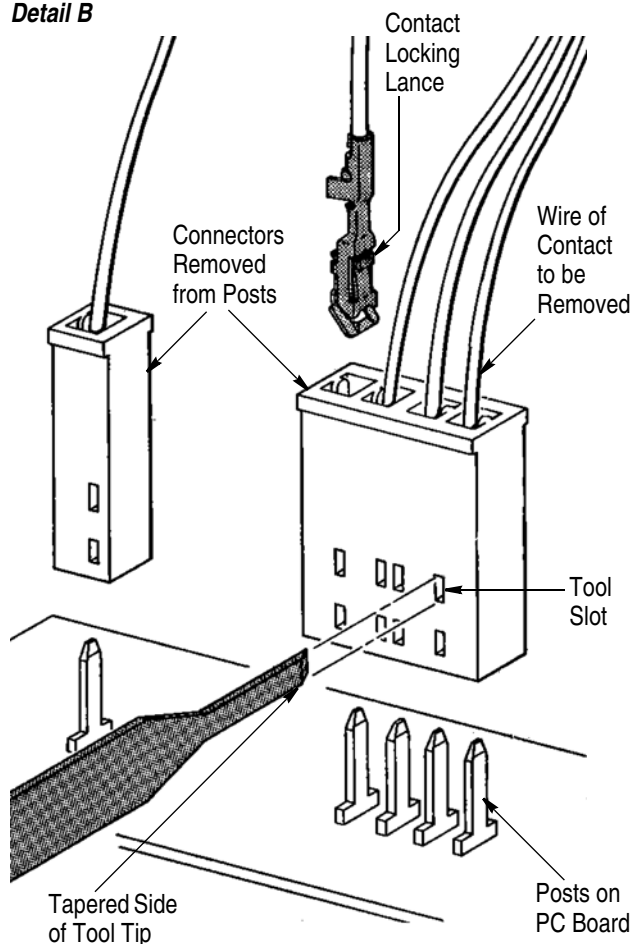

Figure 1
Extraction Tool 91104-1 is designed to remove a locking clip contact from a .031x.062-in. printed circuit (pc) board post or a locking clip connector (for .031x.062-in. posts). See Figure 1. Read these instructions thoroughly before extracting any contacts.
3.1. From Posts (See Figure 1, Detail A)
3.2. From Connectors (See Figure 1, Detail B)